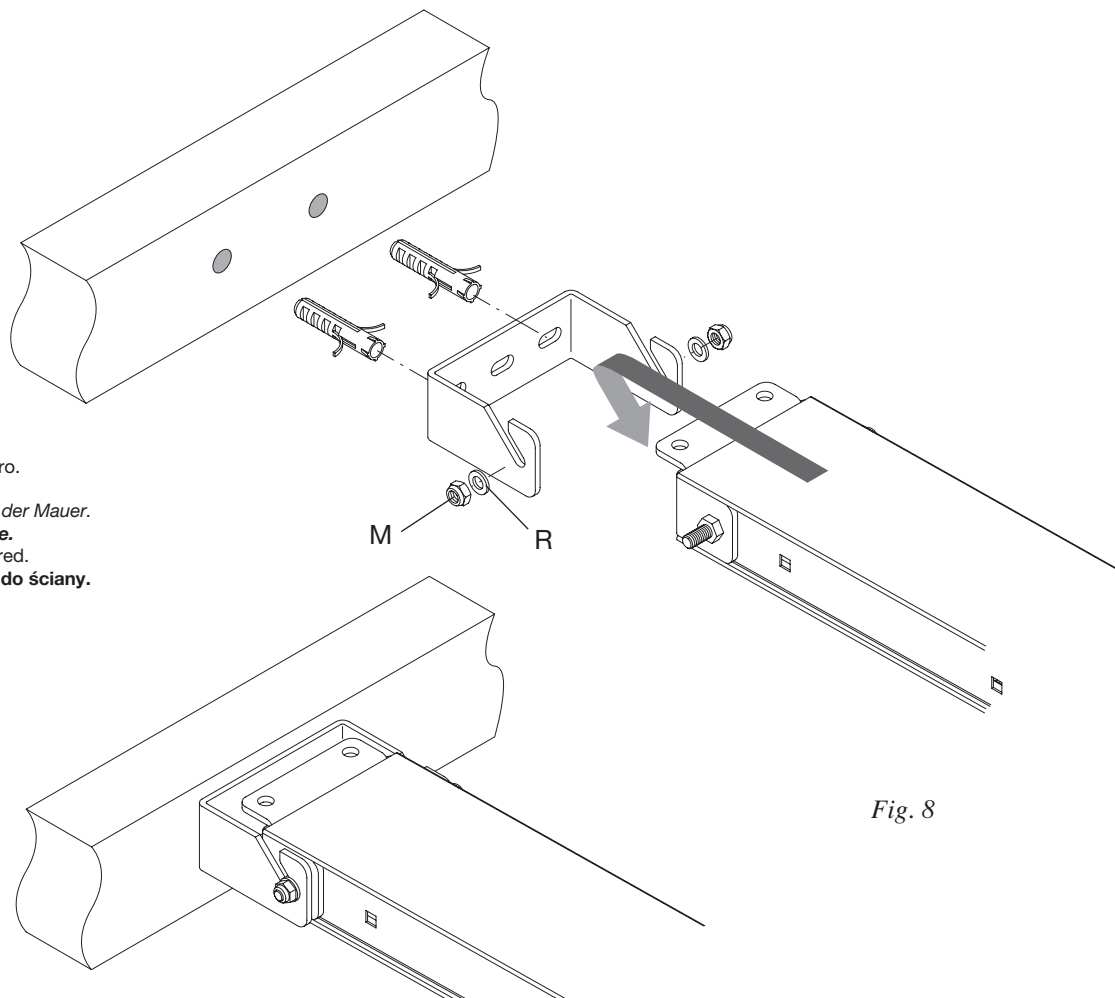
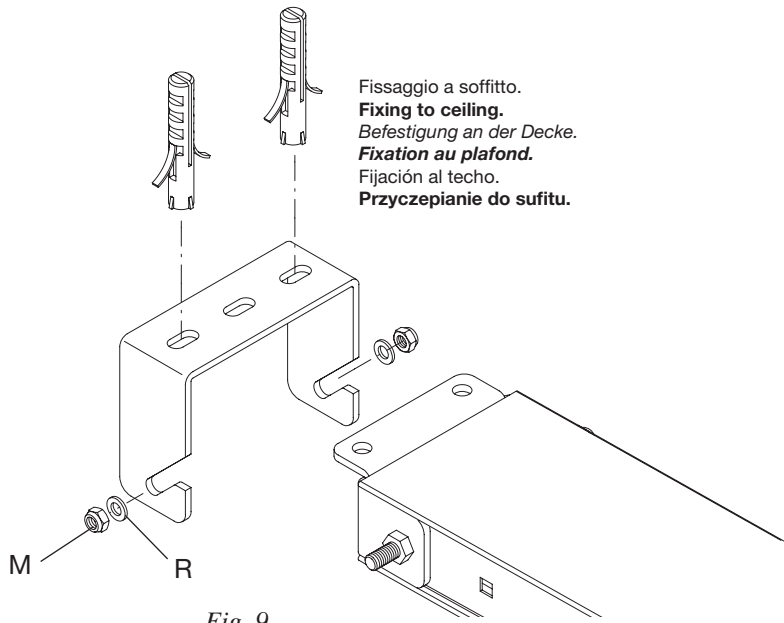

Fig. 8
Fig. 9
- Fit the hooking bracket S to wall (Fig.8) or ceiling (Fig.9). Mark the two fitting points corresponding to the centre of the door. Hook the track to the bracket and fix it by means of nuts M and washers R. Rest the gear motor body on the floor.